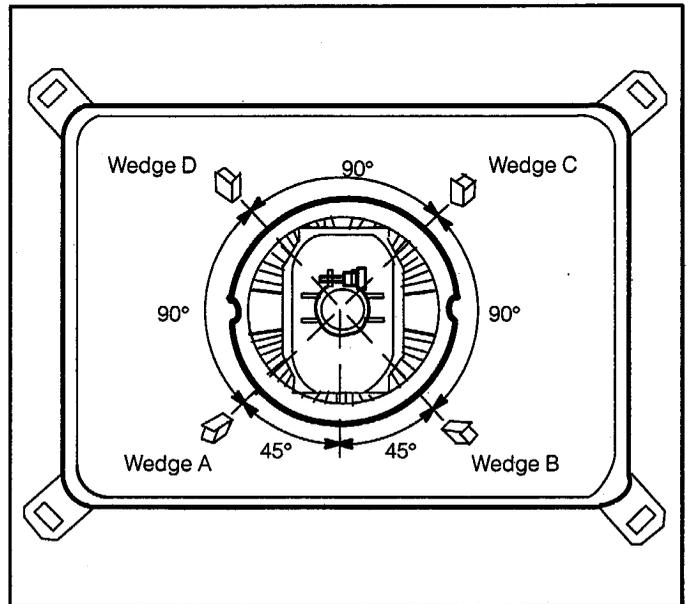

Fig. 16
7. Fix the deflection yoke by reinserting the DY wedges. (See Fig. 16)
1. Wedge A shown in **Fig. 16** should be fixed within a range of 45° to the left of the vertical line as shown.